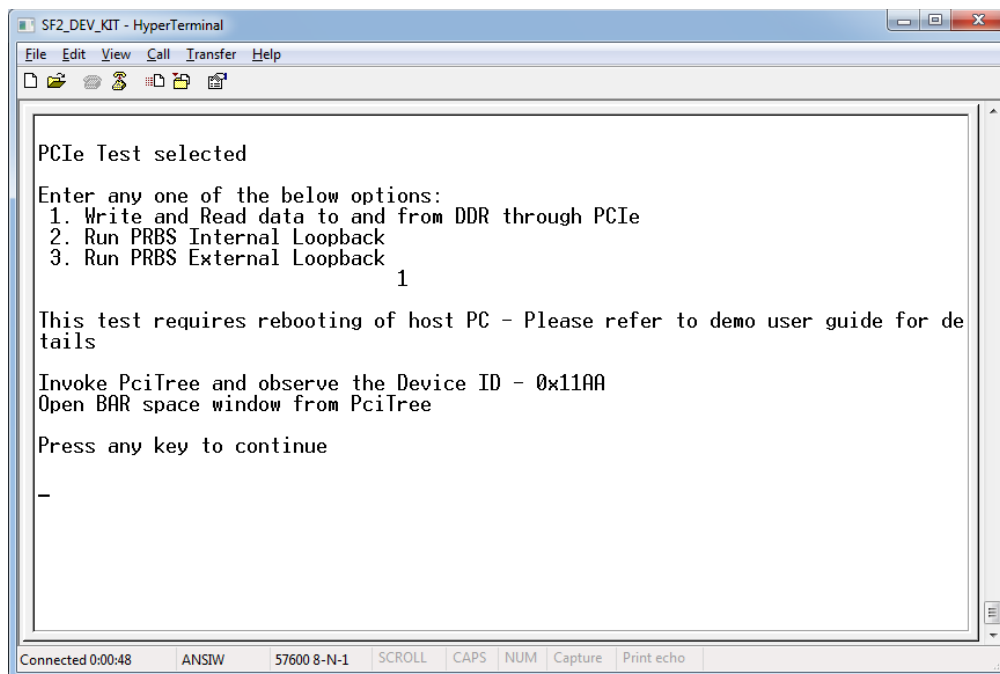

Figure 16. PCIe Write
15. Enter **1** in the terminal to write the data to DDR3 memory through PCIe using PciTree. A message is displayed, as shown in Figure 16.